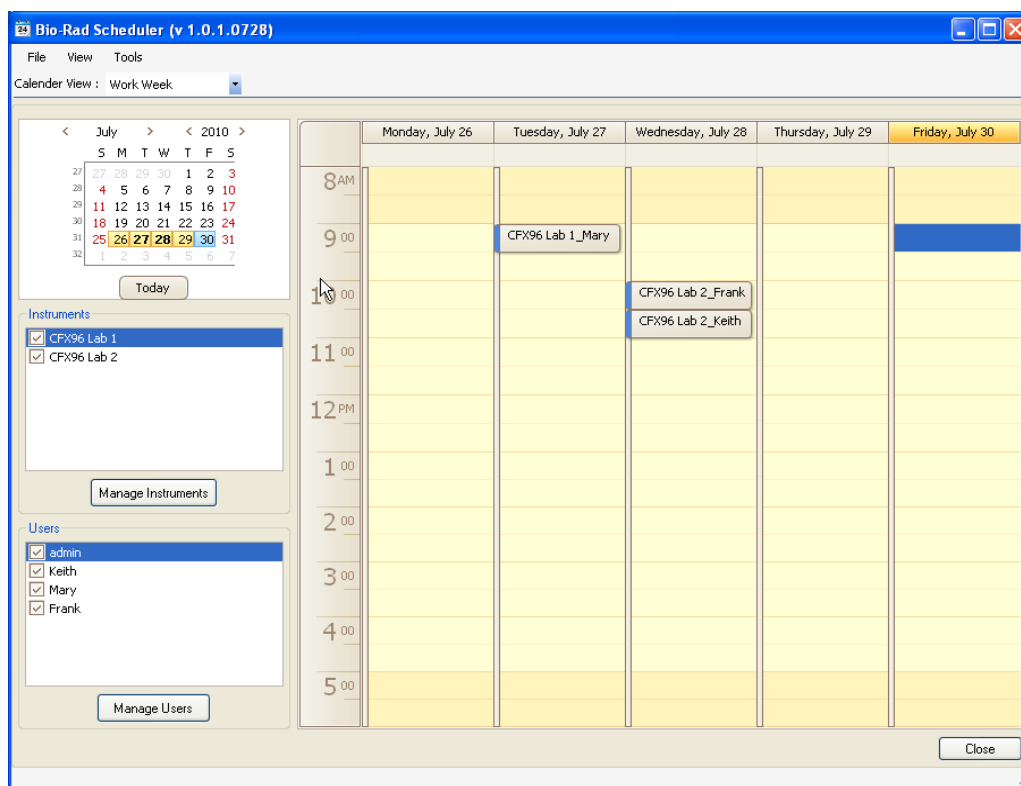

Figure 13. Scheduler Main Window.
Use the Scheduler to reserve access to an instrument(s). To access the Scheduler click the Scheduler button in the toolbar (Figure 13) or select **Tools > Scheduler** from the main window.
2. To add a new instrument, select **View > Instrument Details** or click the **Manage Instruments** button below the Instruments list (Figure 13) in the scheduler main window. In the Instrument Details window, enter the instrument name in the Name column. Choose a model from the drop down menu or leave it blank to schedule instrument types not listed. Entering base and optical head serial numbers is optional.